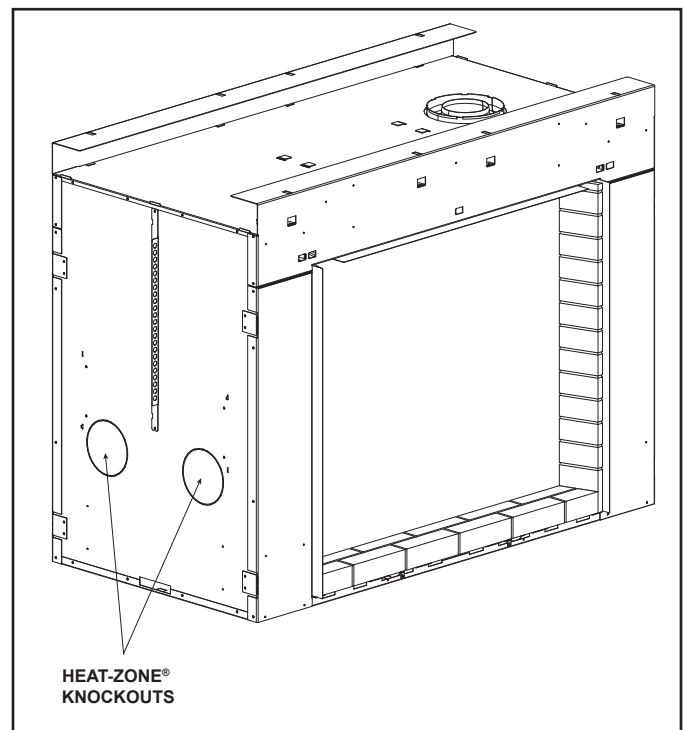

Figure 14.8 Heat-Zone® Gas Knockouts.
1. Remove the knockout from the side of the appliance and discard it (see Figure 14.8).